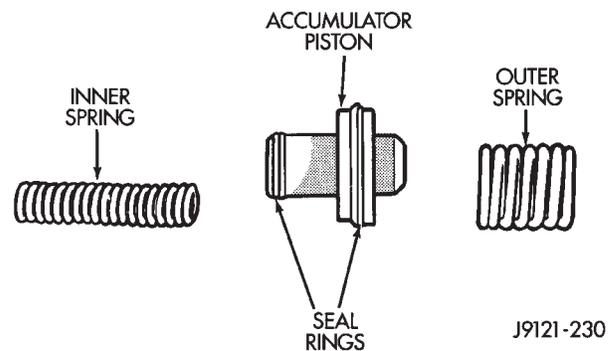

Fig. 57 Accumulator Piston Components
(3) Check condition of seals on accumulator piston (Fig. 57). Install new piston seals, if necessary.
(4) Place valve body manual lever in low (1 position) so ball on park lock rod will be easier to install in sprag.
(5) Lubricate shaft of manual lever with petroleum jelly. This will ease inserting shaft through seal in case.
(6) Lubricate seal rings on valve body harness connector with petroleum jelly.
(7) Position valve body in case and work end of park lock rod into and through pawl sprag. Turn propeller shaft to align sprag and park lock teeth if necessary. The rod will click as it enters pawl. Move rod to check engagement.